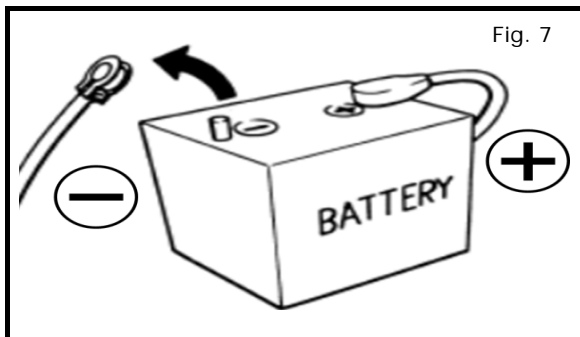

Fig. 7
- a) Using the 1/4 ratchet and 10mm socket loosen Negative battery terminal. Remove and isolate negative terminal from the negative post as shown in Fig. 7.